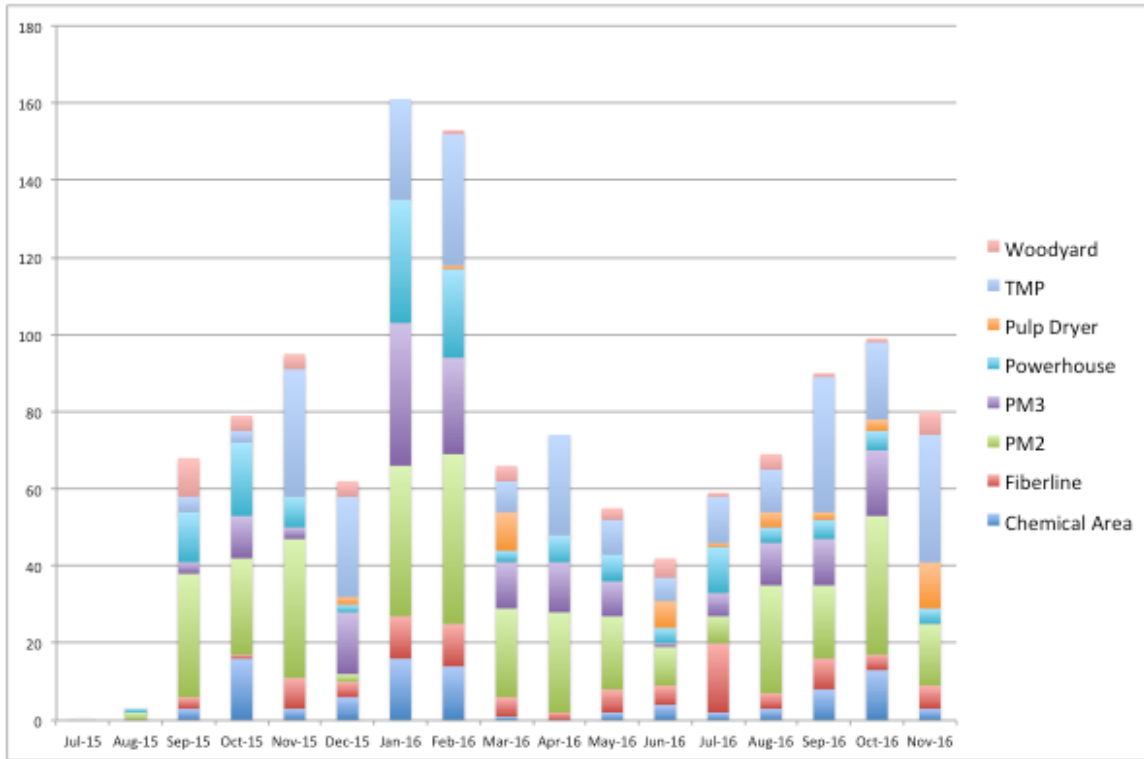

Figure 5: Planned Packages Developed by Month
- Planners estimated work on a daily basis and assigned work according to manpower available. Planner generated approximately 50-60 work plans a month – See Figure 5